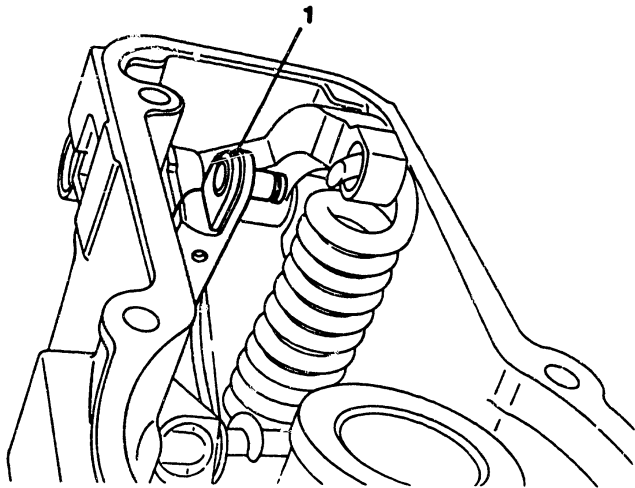

Fig. 59 Assembly position for governor spring
Ensure governor spring has its hooked portion, which is shaved flat, facing link (174) when connecting speed setting lever. (Fig. 59)